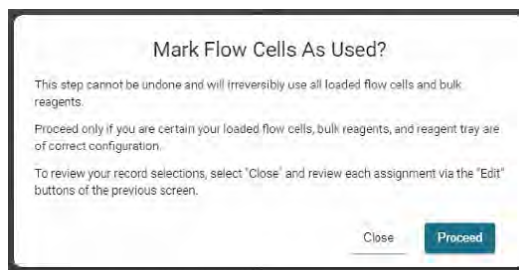

Figure 28: Mark Flow Cells as Used
8. Once Validate Deck is selected, a prompt will ask to "**Mark Flow Cells as Used?**" This is the final opportunity to review slide record and run information (see Figure 28).